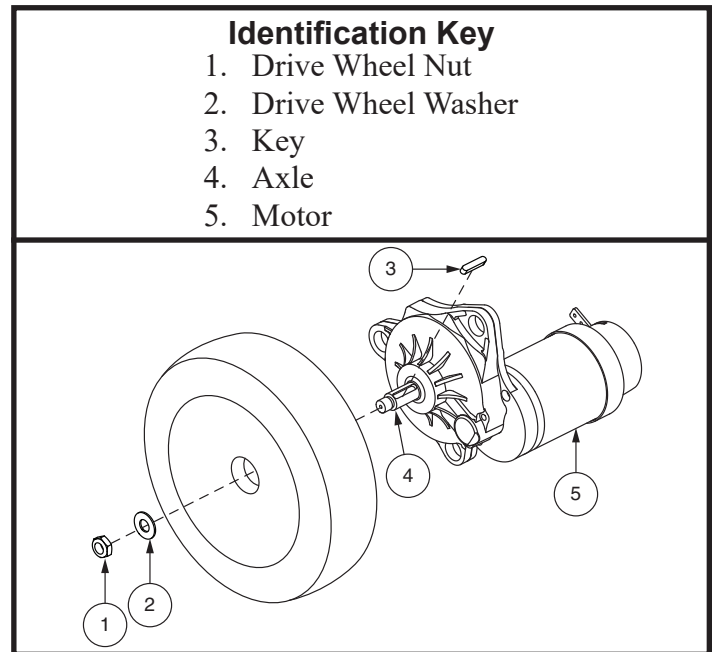

Figure 16. Drive Wheel Removal
6. Remove the drive wheel nut and washer from the axle. **See figure 16.**
12. Using a new drive wheel nut, reinstall the drive wheel nut and washer onto the axle and tighten. **See figure 16.**